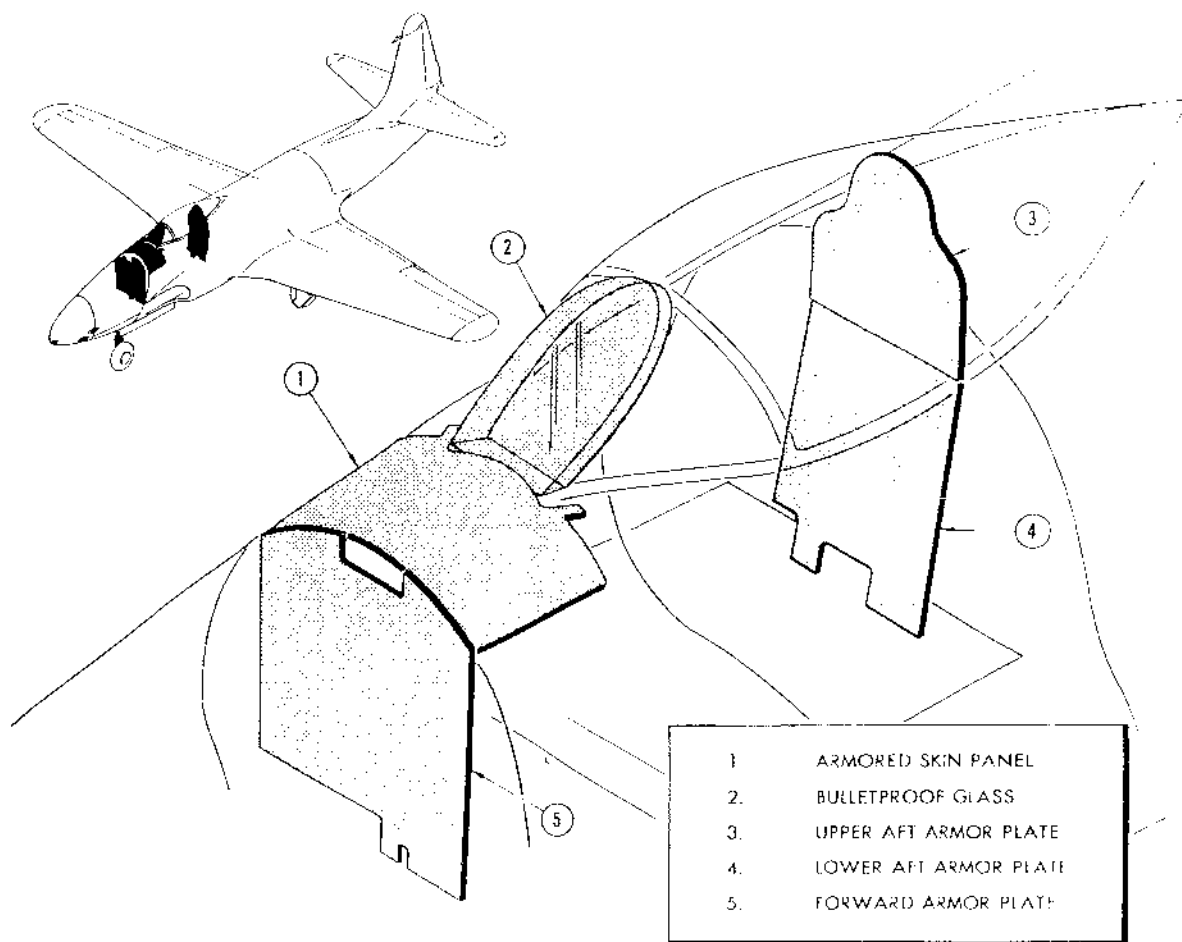

Figure 247 — Armor Plate
b. **ARMOR PLATE.** (See figure 247.)—The pilot is protected from gun fire by armor plate and bulletproof glass. For information on the removal of the bulletproof glass, see paragraph 3c(4), this section.